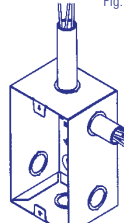

Fig. 2
- Insert the electrical conductors into the cabinet through the flexible conduit, use flexible conduit nuts or other approved methods for this purpose (Fig. 2).